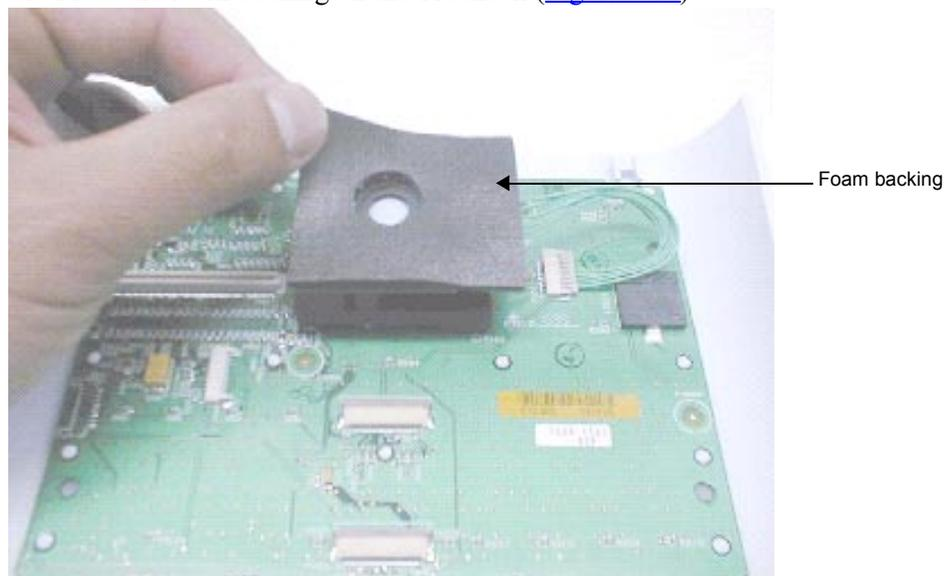

Figure 7.14 Placing the Foam Backing
5. Place the foam backing on the Trackball (Figure 7.14).